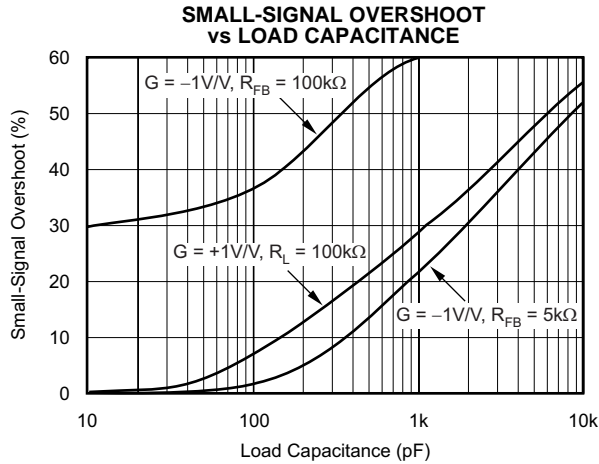
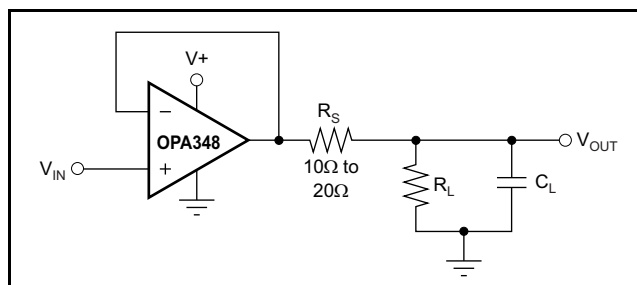
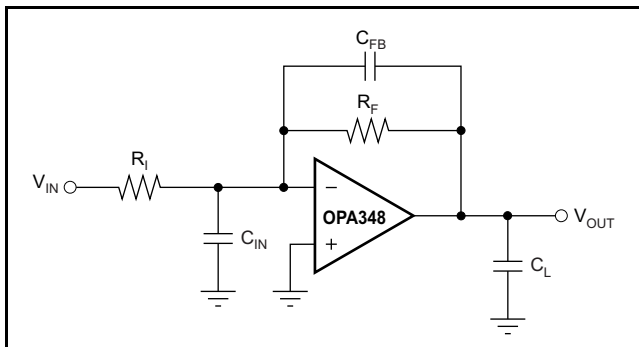

Figure 13.
Figure 23. Series Resistor in Unity-Gain Buffer Configuration Improves Capacitive Load Drive
Figure 24. Improving Capacitive Load Drive
The OPA348 in a unity-gain configuration can directly drive up to 250pF pure capacitive load. Increasing the gain enhances the amplifier's ability to drive greater capacitive loads (see the typical characteristic *Small-Signal Overshoot vs Capacitive Load*, Figure 13). In unity-gain configurations, capacitive load drive can be improved by inserting a small (10Ω to 20Ω) resistor, R_S , in series with the output, as shown in Figure 23. This significantly reduces ringing while maintaining DC performance for purely capacitive loads. However, if there is a resistive load in parallel with the capacitive load, a voltage divider is created, introducing a Direct Current (DC) error at the output and slightly reducing the output swing. The error introduced is proportional to the ratio R_S/R_L , and is generally negligible.
In unity-gain inverter configuration, phase margin can be reduced by the reaction between the capacitance at the op amp input, and the gain setting resistors, thus degrading capacitive load drive. Best performance is achieved by using small valued resistors. For example, when driving a 500pF load, reducing the resistor values from 100kΩ to 5kΩ decreases overshoot from 55% to 13% (see the typical characteristic *Small-Signal Overshoot vs Load Capacitance*, Figure 13). However, when large valued resistors cannot be avoided, a small (4pF to 6pF) capacitor, C_{FB} , can be inserted in the feedback, as shown in Figure 24. This significantly reduces overshoot by compensating the effect of capacitance, C_{IN} , which includes the amplifier's input capacitance and PC board parasitic capacitance.